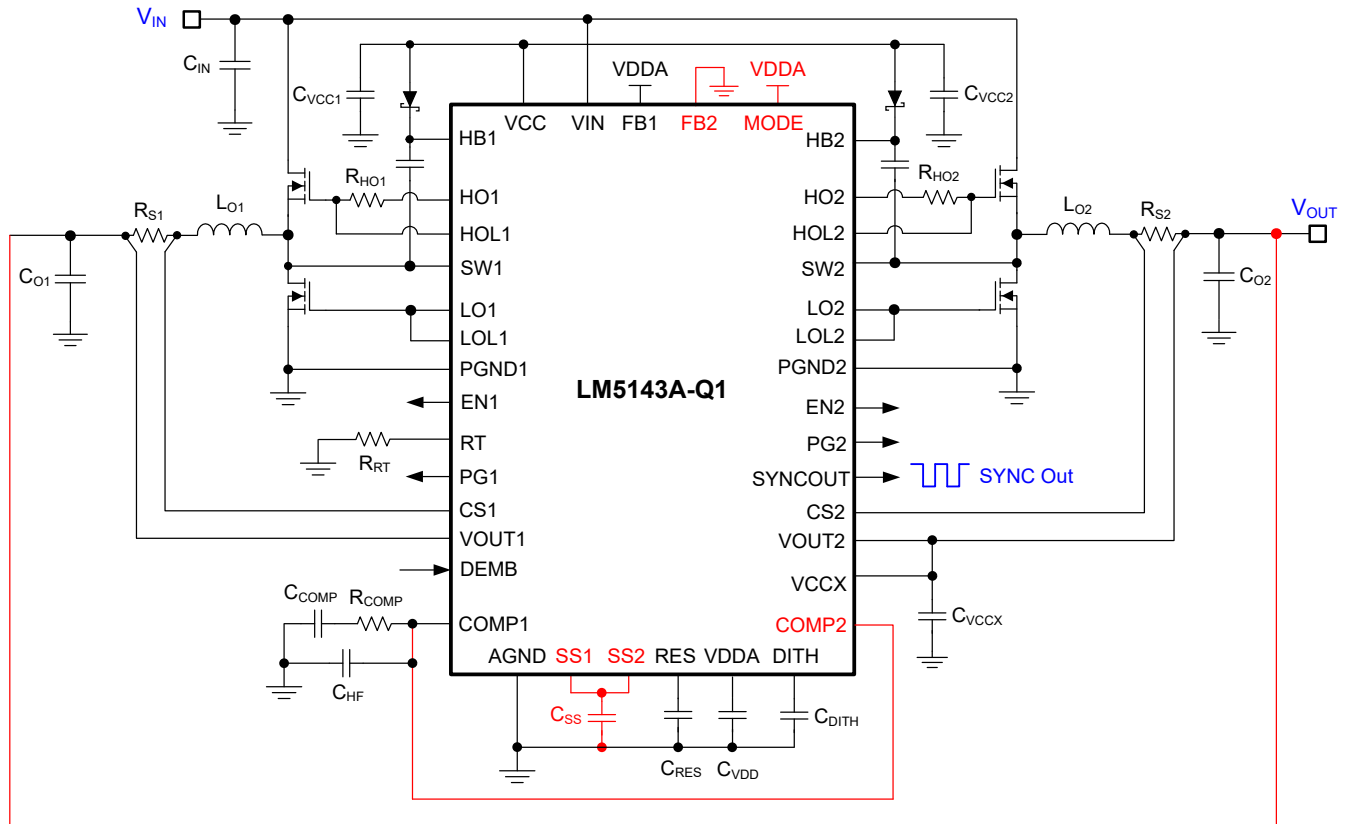

Figure 9-9. Two-Phase Regulator Schematic Configured for Single-Output Interleaved Operation
3.3-V output and to AGND for a 5-V output. Connect FB1 to an external feedback divider for an output voltage between 0.6 V to 55 V. See Table 9-2 and Figure 9-9.